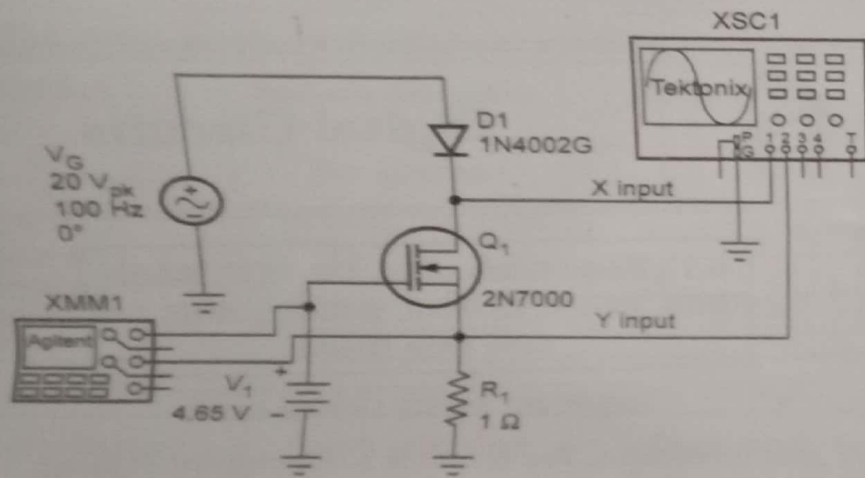

Fig. Q.65.1
- Fig Q.65.1 shows a circuit capable of testing both depletion-mode and enhancement-mode MOSFETs. By changing the voltage level and polarity of V_1 , the device can be tested in either depletion or enhancement modes of operation.